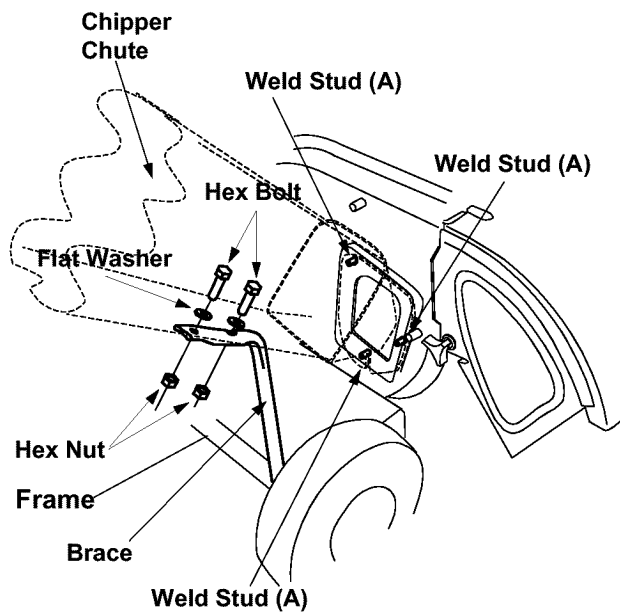

Figure 6
7. Attach brace to chipper chute with the hardware removed earlier from the brace. Tighten securely. See Figure 6.
1. Remove the three cupped washers and hex nuts from the weld studs (A) beside the opening on the left side of the housing. See Figure 6.